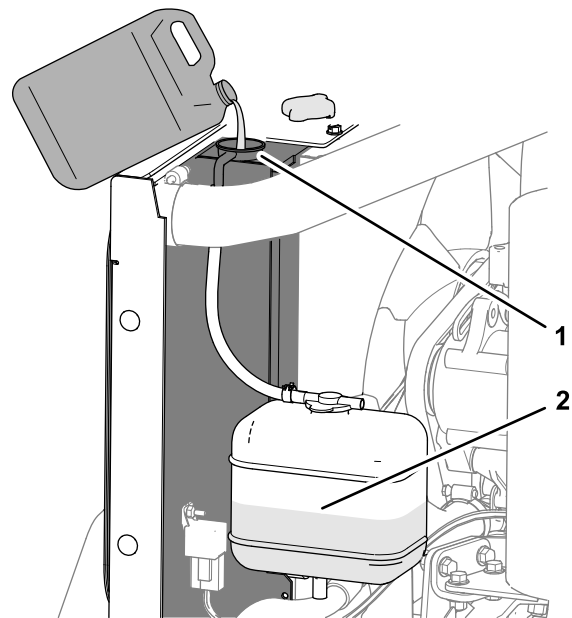

Figure 59
2. Install the radiator cap (Figure 59).
3. Remove the cap from the coolant reservoir tank and add the specified coolant until the tank is 1/2 full (Figure 59).
4. Install the cap onto the coolant reservoir tank (Figure 59).
1. Remove the radiator cap and slowly add the specified coolant until the radiator is full (Figure 59).